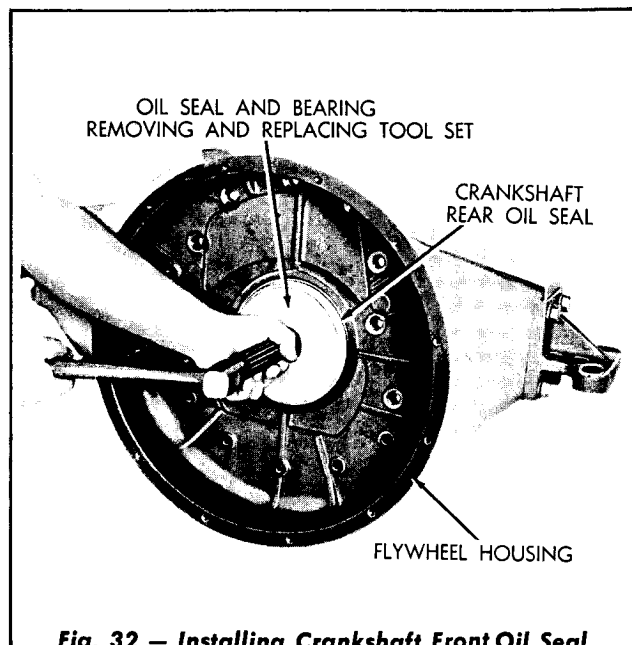
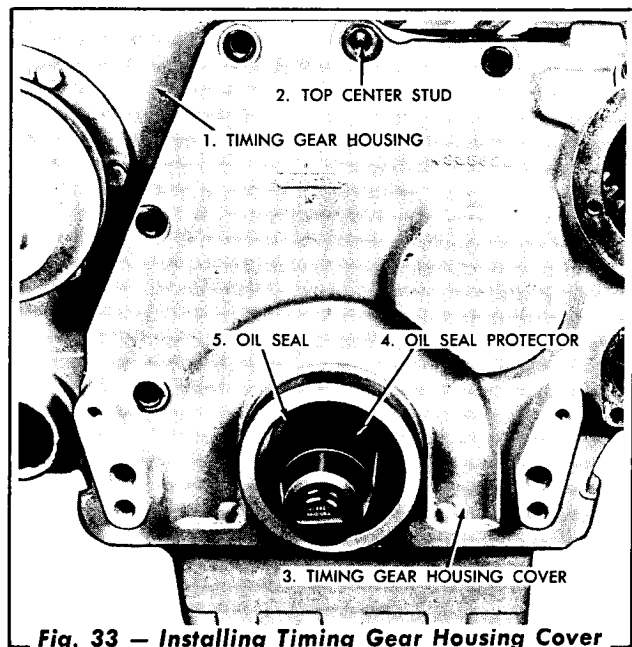

Fig. 32 — Installing Crankshaft Front Oil Seal
Fig. 33 — Installing Timing Gear Housing Cover
Drive the oil seals from the flywheel housing and the timing gear housing cover and install new oil seals each time that the engine is disassembled. To prevent damaging the new seals, lubricate the lip and use a tool similar to the one shown in Figure 32, to drive the new seals into place. The sealing lip of each seal must be directed toward the inner side of the housing or the cover. When installing the timing gear housing cover, a crankshaft housing oil seal protector similar to the one shown in Figure 33 should be used to prevent damage to the seal lip.
7. If necessary, install a new crankshaft front end oil seal using a tool similar to the one shown in Figure 32.